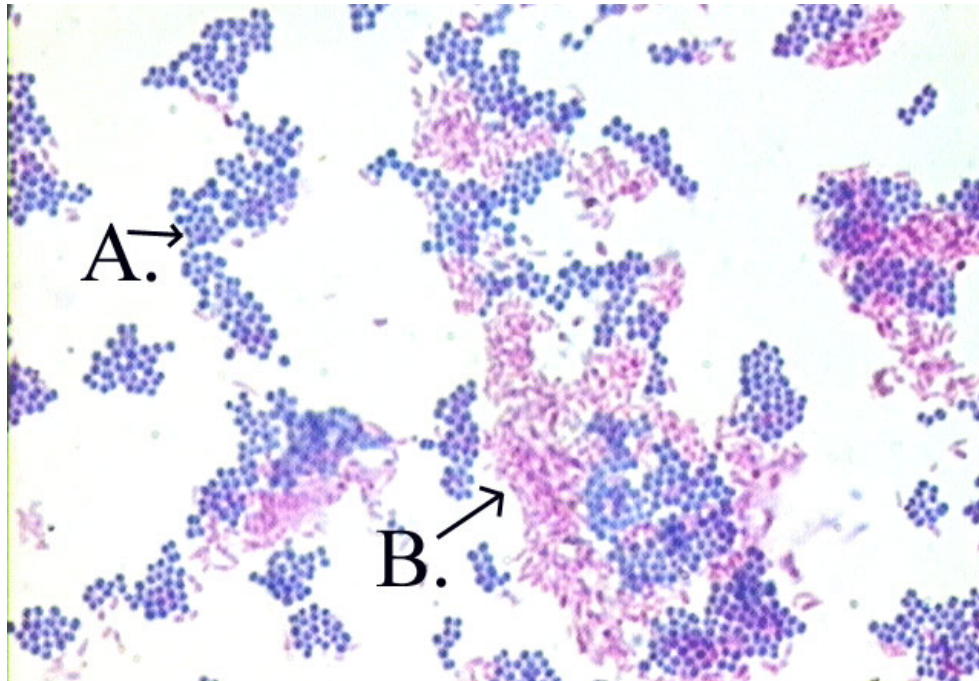

Figure 4. Difference between non-acid fast bacteria (A) and acid fast bacteria (B)
7. Rinse with water, dry, and observe with the oil immersion lens (Figure 4.).